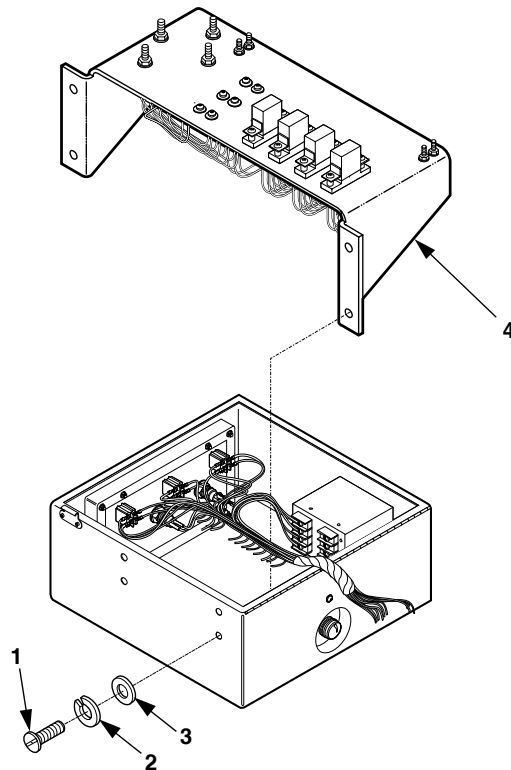

Figure 5-13. Relay Board Assembly Removal.
6. Remove four screws (1, figure 5-13), lock washers (2), and flat washers (3), and invert relay board assembly (4).
4. Position relay board (4, figure 5-13) and install four flat washers (3), lock washers (2), and screws (1).